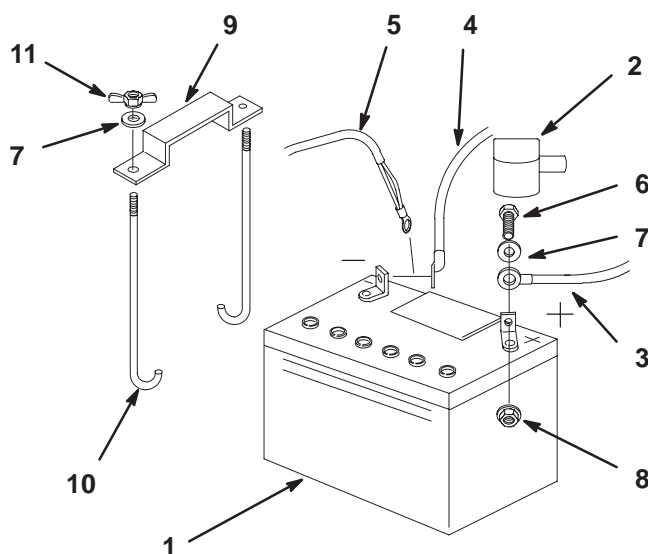

Figure 65
1. Position battery in tray with terminal posts toward the engine (Fig. 65).
4. Secure the cables with 2 bolts (1/4 x 3/4 inch), 2 washers (1/4 inch), and 2 locknuts (1/4 inch) (Fig. 65).
6. Secure the battery with J-bolts, hold down clamp and 2 washers (1/4 inch), and 2 wing nuts (1/4 inch) (Fig. 65).
3. First disconnect the negative battery cable and ground wire from the negative (–) battery terminal (Fig. 65).
4. Slide the red terminal boot off the positive (red) battery terminal. Then remove the positive (red) battery cable (Fig. 65).
5. Remove both wing nuts (1/4 inch) securing the battery clamp (Fig. 65).